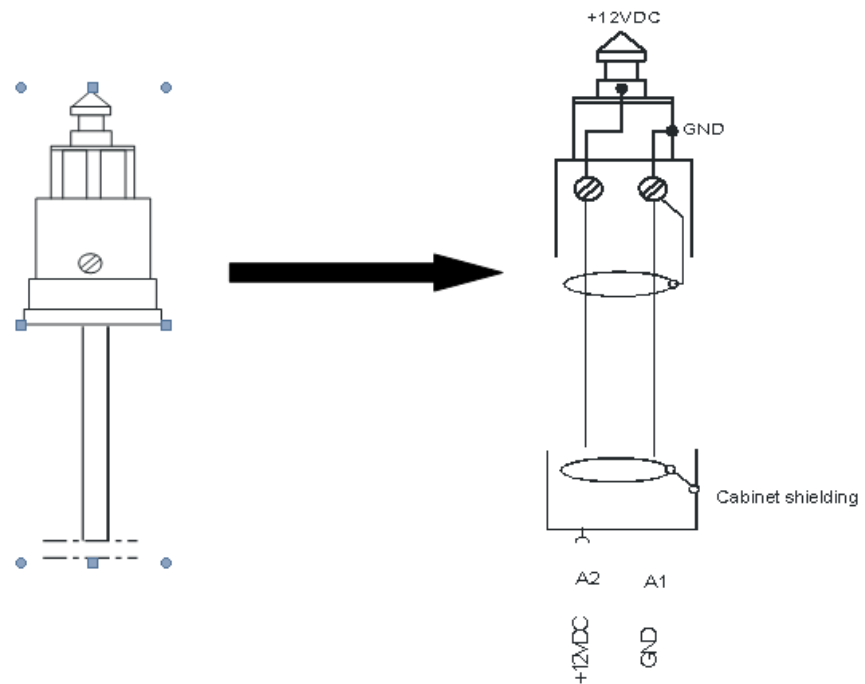

Figure 5-1: Supplied power cable with cigarette lighter adapter
- To use a proprietary DC supply with the R&S TSMA6 power cable, demount the cigarette lighter adapter from the supplied power cable and connect the open ends of the cable to the proprietary power supply. Be sure to respect the correct polarity (see Figure 5-1).